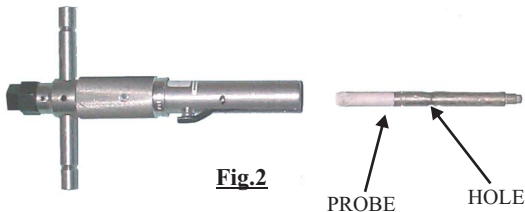

Fig.2
Step 1. (Fig. 2) Assemble the T-Bar handle (A) into the tool body and secure by tightening screw (B).